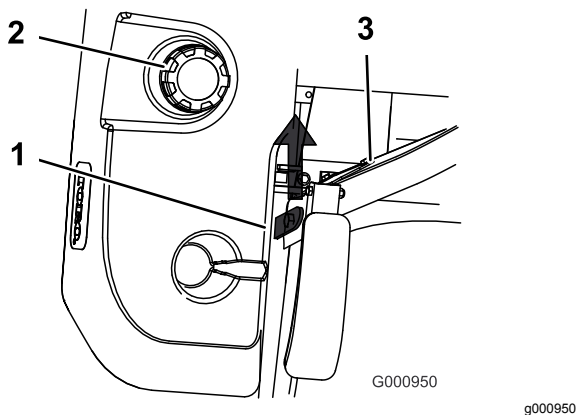

Figure 14
3. Raise the seat up (Figure 14).